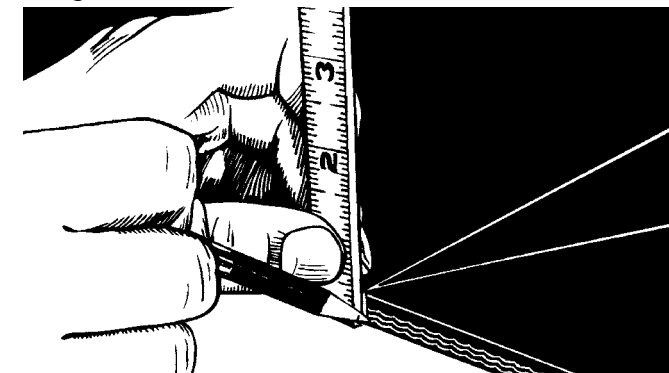

Figure 11-2: Marking the ply cuts down the edge of the belt.
- Measure off the bias length and draw the bias line to the end of the master line on the opposite edge (Fig. 11-2). This line marks the location of the top ply cut after the cover gum is removed.